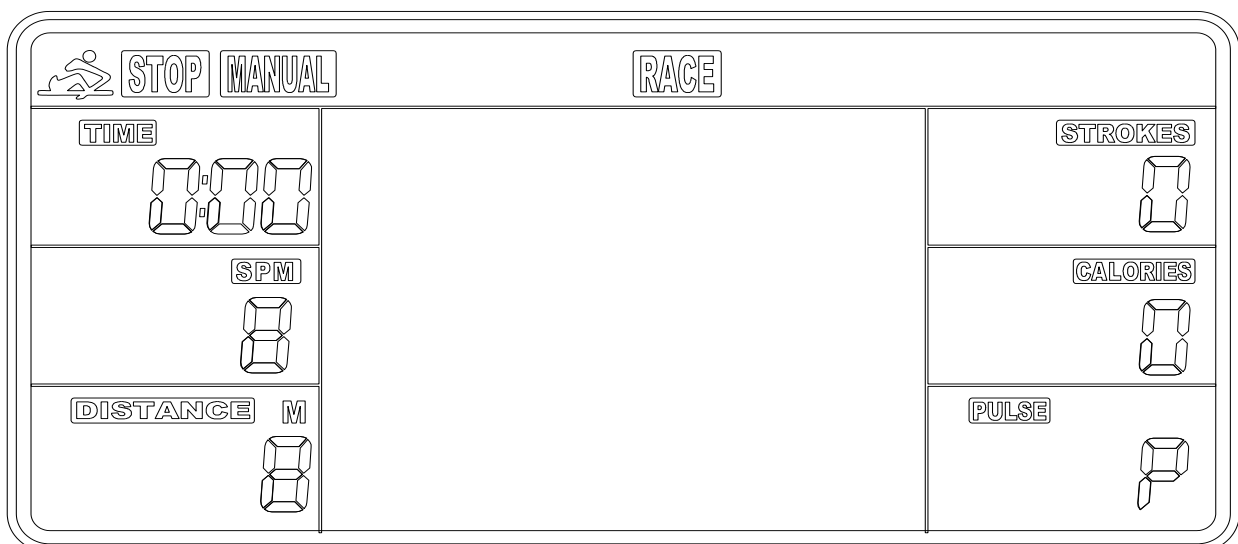

Fig. 3
- After you confirm it, the ALARM will beep. Press ENTER to skip setting up the alarm. To set up the alarm, press UP button to turn on ALARM. An arrow will appear next to ALARM. Press ENTER. CLOCK window will flash. Press UP or DOWN buttons to set the alarm time. Press ENTER to confirm, Meter will go into the SPORT screen (Fig. 3).